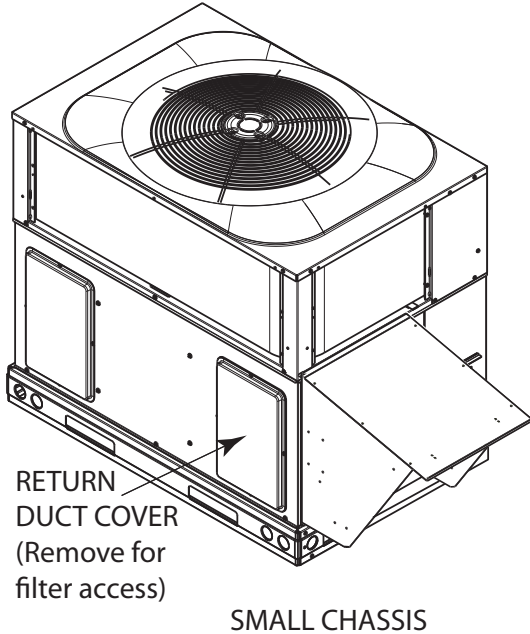

Fig. 3 - Small Chassis Filter Access
1. Remove the filter access panel (See Fig. 3) using a 5/16-in. nut driver.
Small Chassis (See Fig. 3)